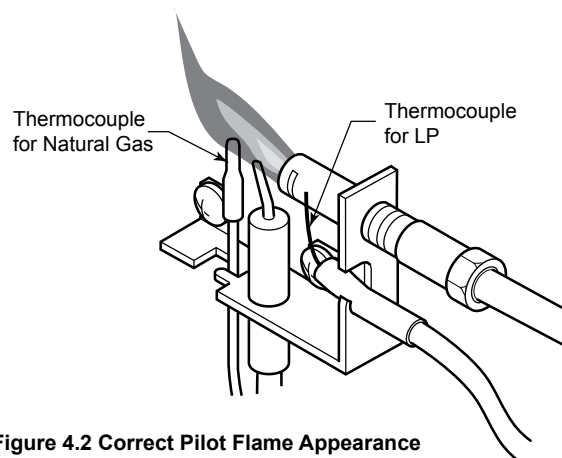

Figure 4.2 Correct Pilot Flame Appearance
- Inspect pilot flame pattern and strength. See Figure 4.2 and 4.3 for proper pilot flame pattern. Clean or replace orifice spud as necessary.